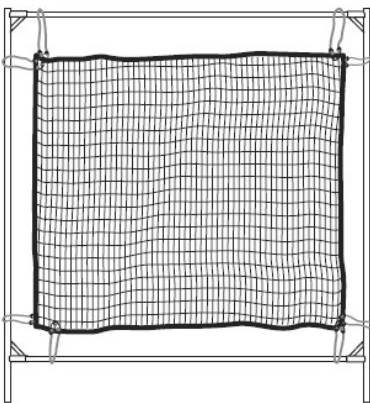

Figure 2
6. Attach the bungee cords for each system as described below and shown in Figure 2 or 3.